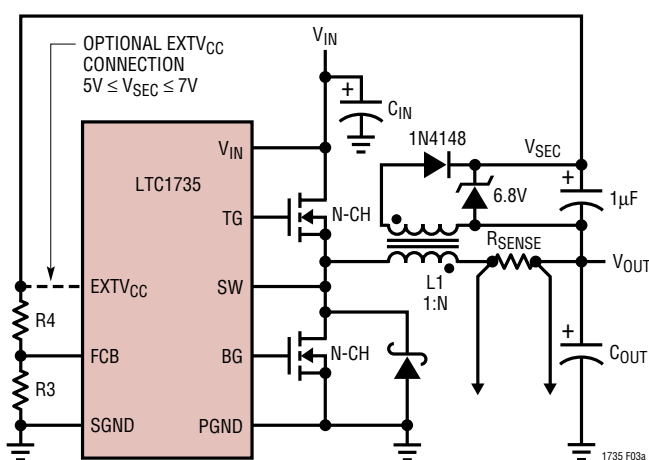
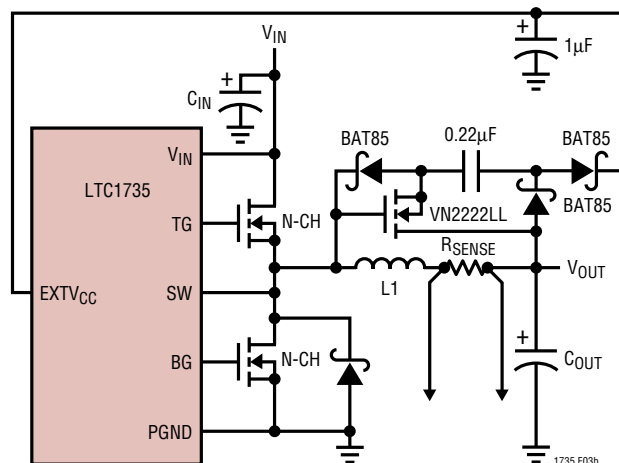

Figure 3a. Secondary Output Loop and EXT_{VCC} Connection
Figure 3b. Capacitive Charge Pump for EXT_{VCC}
3. EXTV_{CC} connected to an output-derived boost network. For 3.3V and other low voltage regulators, efficiency gains can still be realized by connecting EXTV_{CC} to an output-derived voltage that has been boosted to greater than 4.7V. This can be done with either the inductive boost winding as shown in Figure 3a or the capacitive charge pump shown in Figure 3b. The charge pump has the advantage of simple magnetics.
In addition to providing a logic input to force continuous synchronous operation and external synchronization, the FCB pin provides a means to regulate a flyback winding output (refer to Figure 3a). During continuous mode, current flows continuously in the transformer primary. The secondary winding(s) draw current only when the bottom, synchronous switch is on. When primary load currents are low and/or the V_{IN}/V_{OUT} ratio is low, the synchronous switch may not be on for a sufficient amount of time to transfer power from the output capacitor to the secondary load. Forced continuous operation will support secondary windings provided there is sufficient synchronous switch duty factor. Thus, the FCB input pin removes the requirement that power must be drawn from the inductor primary in order to extract power from the auxiliary windings. With the loop in continuous mode, the auxiliary outputs may nominally be loaded without regard to the primary output load.
The secondary output voltage V_{SEC} is normally set as shown in Figure 3a by the turns ratio N of the transformer: